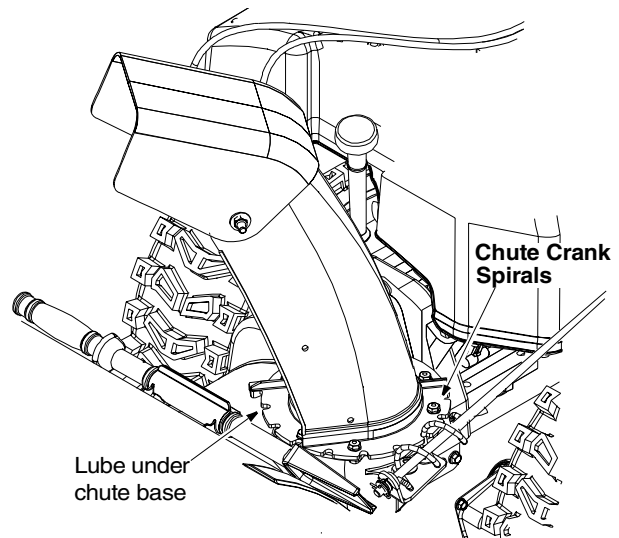

Figure 22
- The base of the discharge chute and the spirals on the chute crank should be lubricated at least every 25 hours of use. Apply the lubricant under the base of the chute and where the spirals contact the discharge chute. See Figure 22 .